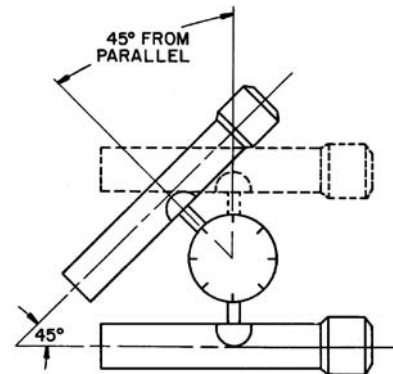

FIGURE 1
5. Insert the microphones in the swivel adapters, loosen the knurled knob on the top of the A27M, and position the microphones for the desired response angles. The top of the knurled knob contains reference marks every 45°; these may be used to position the microphones at the desired angle (see Figure 1).